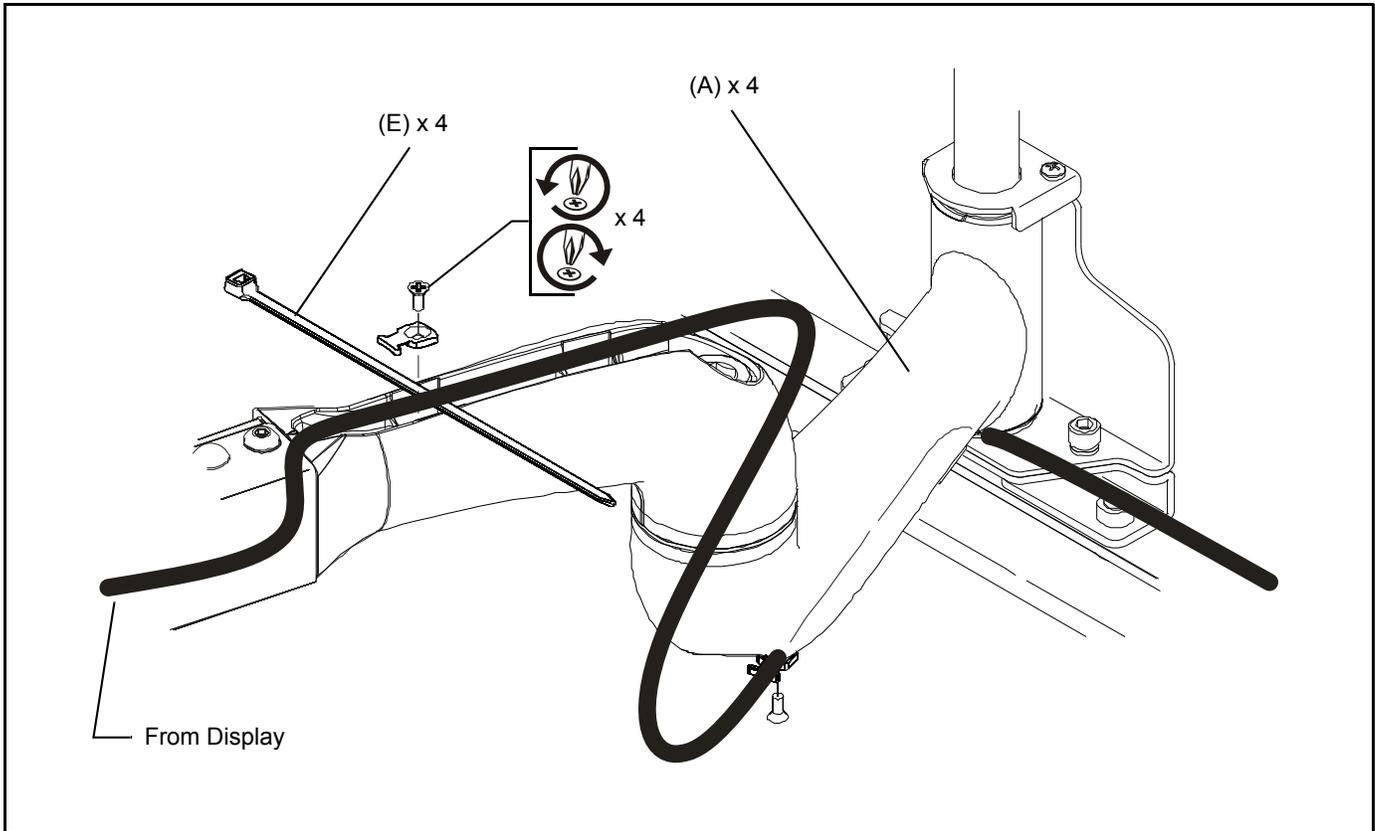

Figure 7
1. Loosen front and rear cable clamps on top arm. (See Figure 7)
2. Thread cable ties (E) under cable clamps and secure clamps to top arm. (See Figure 7)
3. Route power/audio/video cables through the cable channel in top arm (See Figure 7), allowing sufficient slack in cables for left/Right movement of display and swing arm and also swing arm extension and retraction.
4. Secure cables to top arm using two cable ties (E).